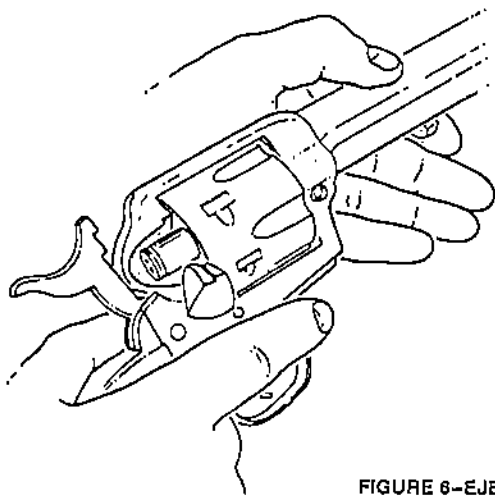

FIGURE 6-EJECTION
4. KEEPING FINGERS AWAY FROM TRIGGER, align chamber as shown in Figure 6 and push ejector rod, (located under the barrel) backwards through cylinder chamber, forcing out the live round or empty case, which should be removed from revolver. Allow ejector rod to return forward under its spring action.